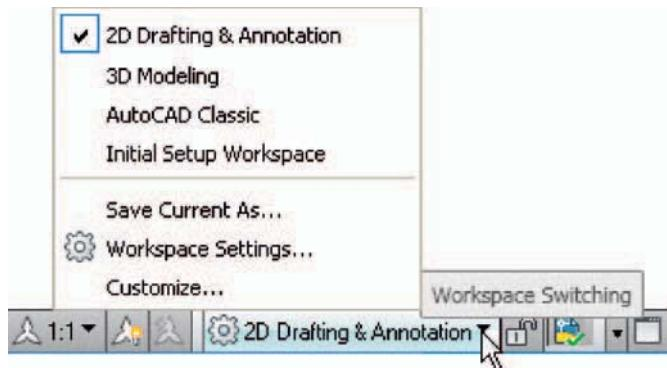

Fig. 15.1 Click **3D Modeling** in the **Workspace Settings** menu
1. Click the **Workspace Switching** button and click **3D Modeling** from the menu which appears (Fig. 15.1).